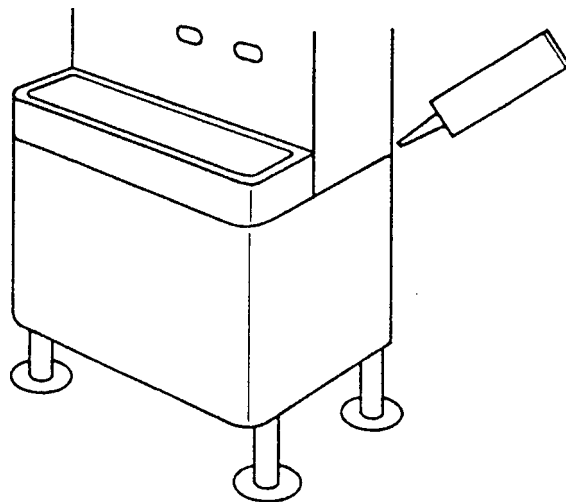

Fig. 3
6. Seal the seam all around between the dispenser and the Cabinet Stand with food grade silicone. See Fig. 3